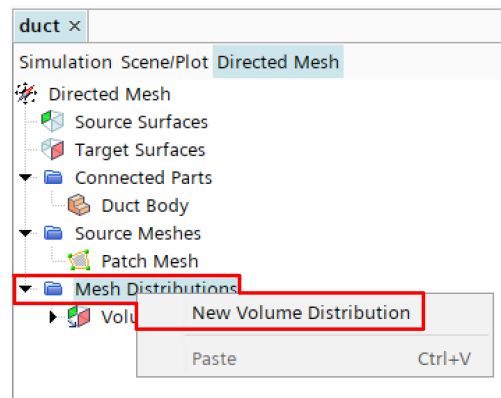

Figure 28: Creating the volume distribution node.
11. Right click on **Mesh Distributions** and select **New Volume Distribution**, as shown in Figure 28. The **Parts for Creating a New Mesh Distribution** menu will open on screen. Select the **Duct Body** as the